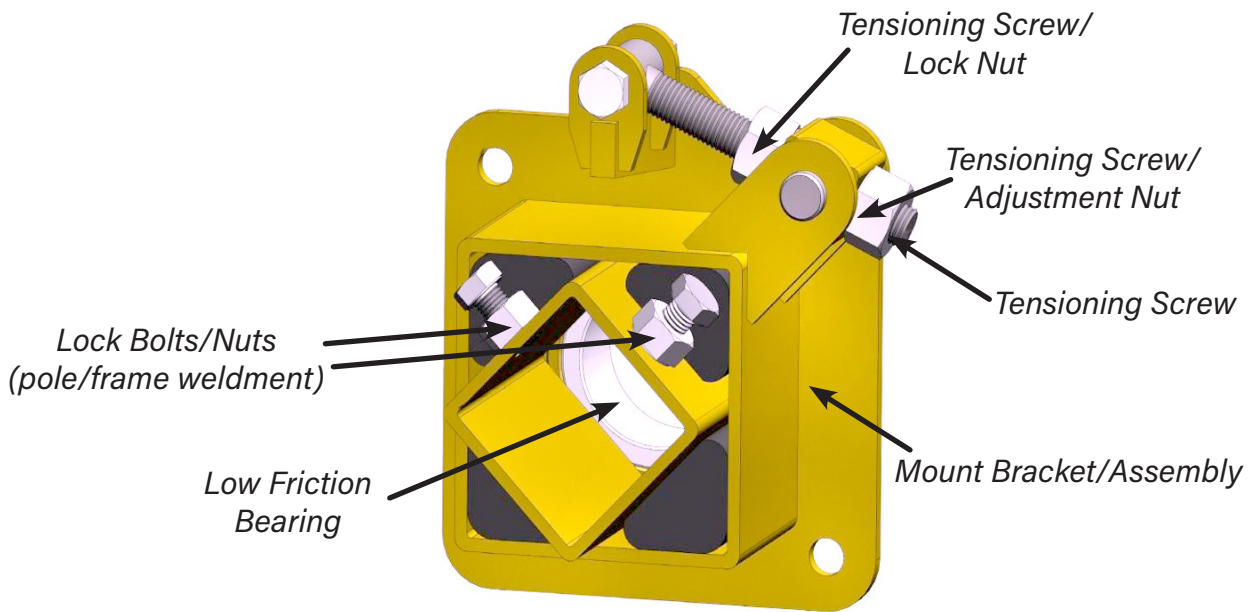

Figure 2: Rosta Spring Tensioner Assembly
2. Loosely bolt far side mounting bracket and tensioner to chute wall. (Figure 2)
3. Loosely bolt near side mount bracket and tensioner to chute wall. (Figure 2).